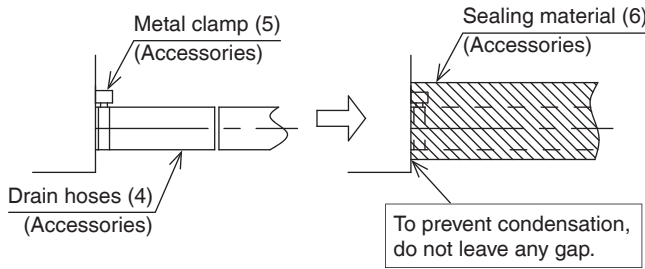

Fig. 6
- Be sure to use the included drain hose (4) and metal clamp (5).
In addition, insert the drain hose (4) all the way onto the drain socket, and tighten the metal clamp (5) in place at the base of the drain socket. **(Refer to Fig. 6 and 8.)**
- Apply the included sealing material (6) to the metal clamp (5) in the direction of the arrow starting at the base of the drain hose (4) to apply insulation. **(Refer to Fig. 6 and 8.)**